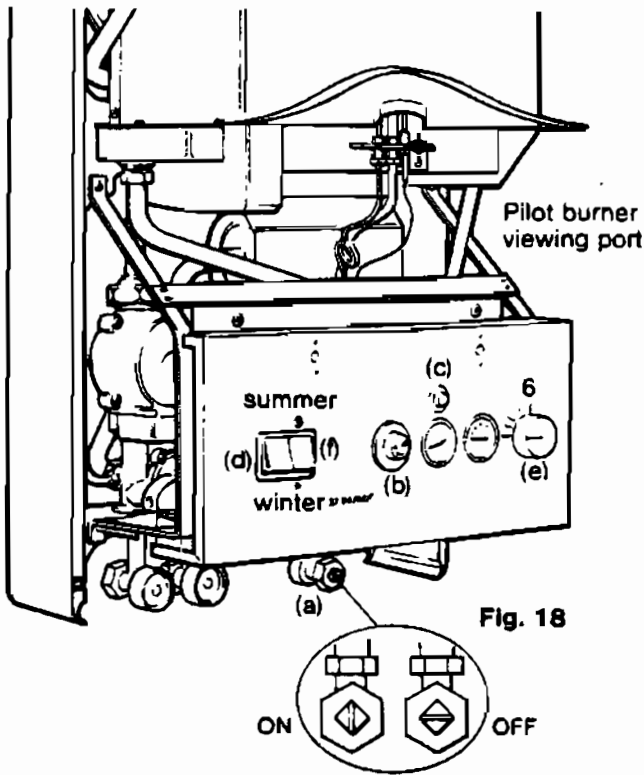

Fig. 18
6.6 Lighting the boiler and main burner adjustment (fig 18)